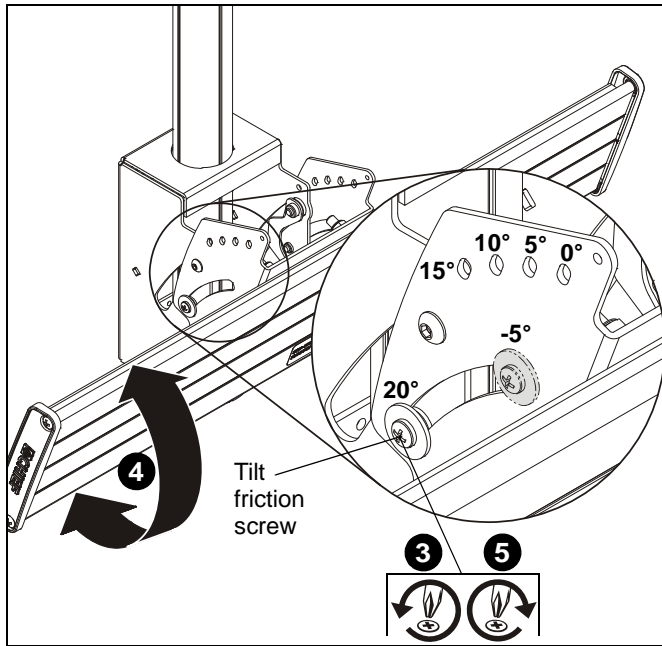

Figure 10
- Loosen two tilt friction screws (located each side). (See Figure 10)
- Adjust tilt as required. Note specific degrees of tilt. (See Figure 10)